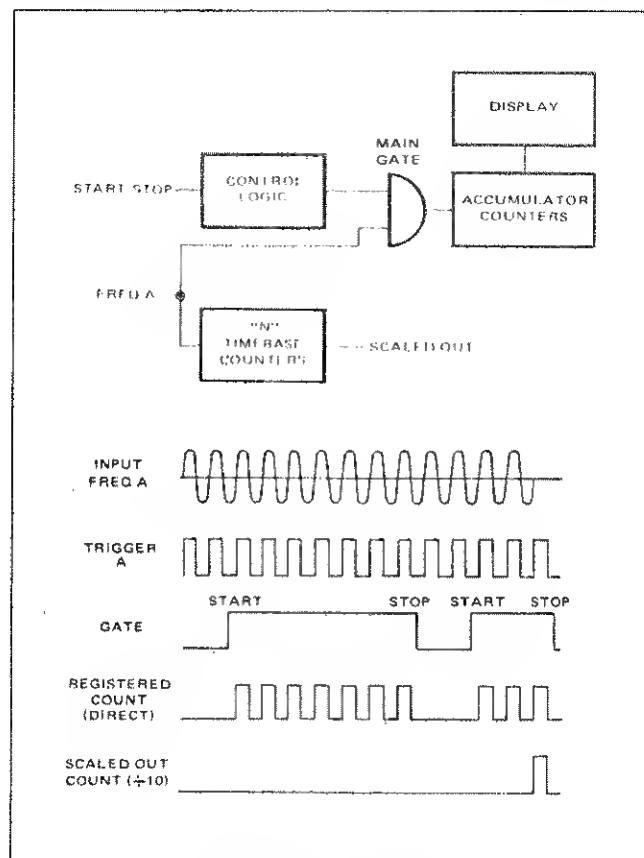

Figure 4.7 - Totalize
4.3.7.1 In Totalize mode, the main gate is controlled by the manual START/STOP switch on the keyboard or external START/STOP commands (figure 4.7).